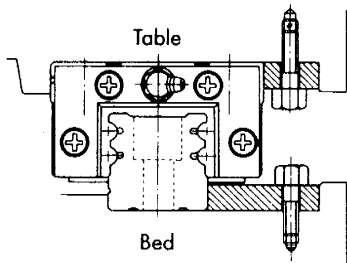

Fig. 52
- Fig. 52; Starting with a side plate slightly wider than needed, file off the ends to ensure a tight fit.